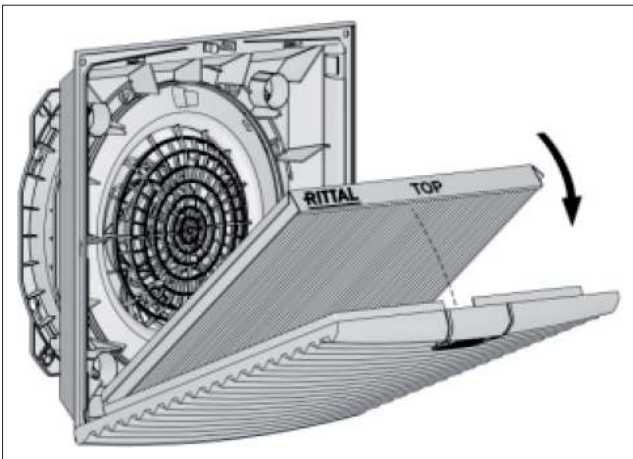

Fig. 7: Installing the IP 54 pleated filter
- Place the pleated filter in the louvred grille. The "Top" logo indicates the insertion direction (see fig. 7)